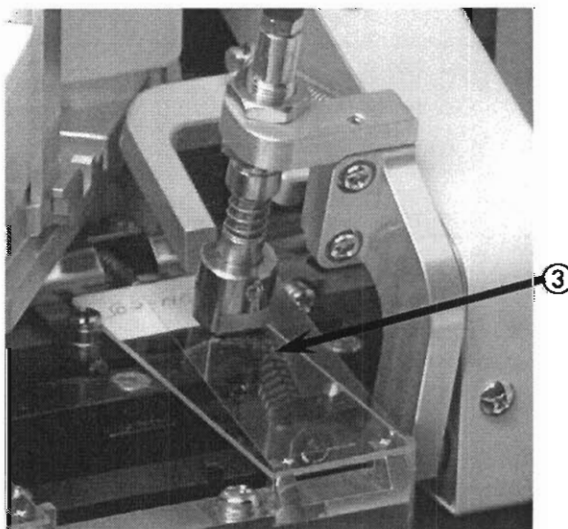

Figure 3-O
The fourth station essentially acts as a holding area ④ (Fig. 3-N) until the stage advances again and places the slide into the receiving rack. The complete coverslipping operation acts as a conveyor system, each process is isolated as it simultaneously operates for enhanced throughput.